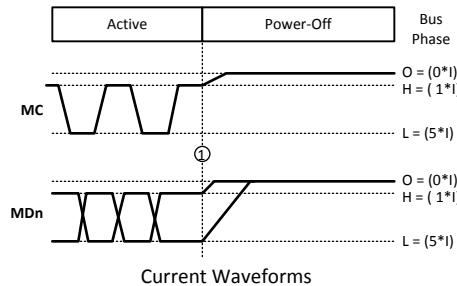

Figure 10. Bus Power Down Timing
(1) Typical values are given for $V_{DDIO} = 1.8V$ and $V_{DD} = V_{DDA} = 1.8V$ and $T_A = 25^\circ C$.
(2) 1 UI is the serial data MD pulse width = 1 / 8xPCLK (3 MD lanes), 1 UI is the serial data MD pulse width = 1 / 12xPCLK (2 MD lanes)
(3) This is a functional parameter and is specified by design or characterization.
(4) Enable Time is a complete MPL start up comprised of $t_0 + t_1 + t_2 + t_3 + t_4$.
(5) Specified functionally by the I_{DDZ} parameter. See also Figure 10.
In the OFF phase, MPL transmitters are turned off with zero current flowing on the MC and MDn lines. Figure 10 shows the transition of the MPL bus into the OFF phase. If an MPL line is driven to a logical Low (high current) when the OFF phase is entered it may temporarily pass through as a logical High (low current) before reaching the zero line current state. The link may be powered down by asserting both the SER's and DES's PD* input pins (Low) or by stopping the PCLK (DES dependant). This causes the devices to immediately put the link to the OFF Phase and internally enter a low power state.